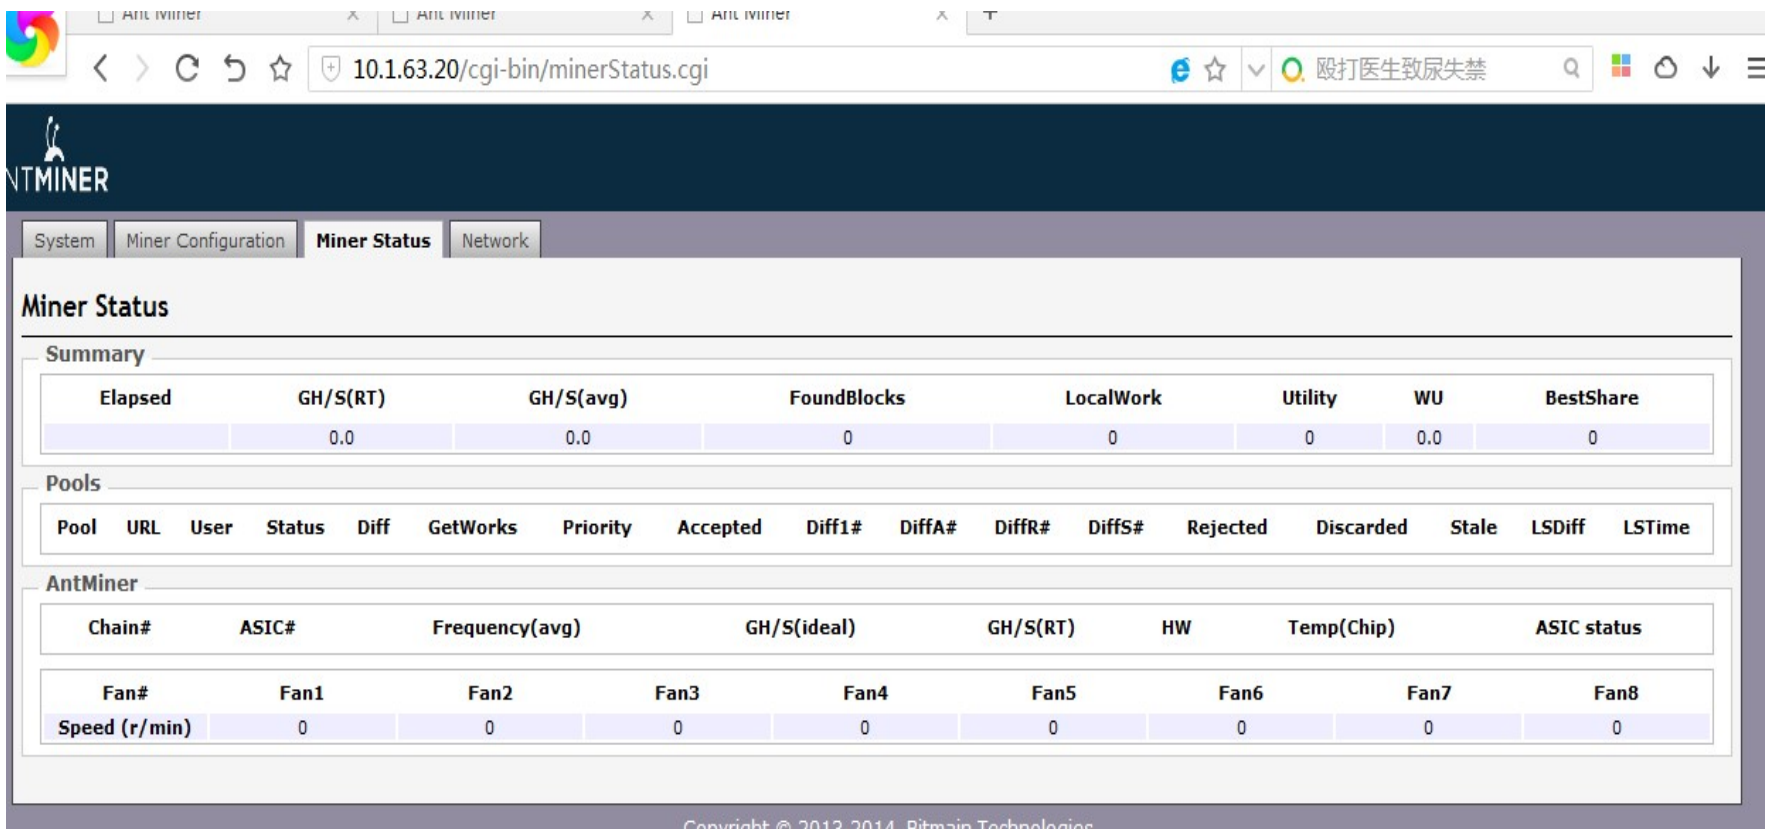

Fig 22. The Screenshot of No Configuration Information
- 1) No configuration information on hash rate interface. See below Fig 22: